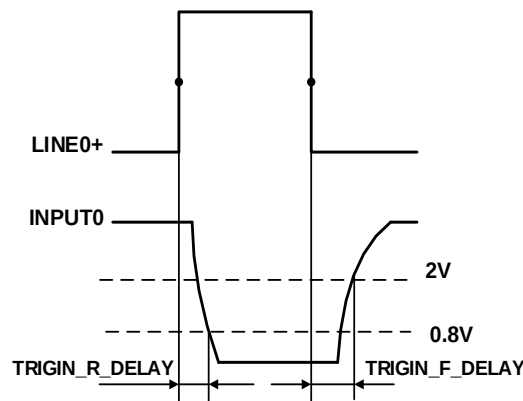

Figure 7-5 Parameter of opto-isolated input circuit
- Rising edge delay: $<50\mu\text{s}$ ($0^{\circ}\text{C}\sim 45^{\circ}\text{C}$), parameter description as shown in Figure 7-5
- Falling edge delay: $<50\mu\text{s}$ ($0^{\circ}\text{C}\sim 45^{\circ}\text{C}$), parameter description as shown in Figure 7-5